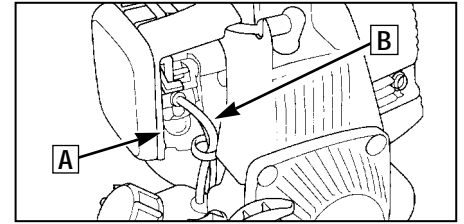

Figure 4
Fuel Primer Bulb (Section 4, Figure 4)
3. To start a cold engine, or after refueling an engine that has run out of fuel, press the priming bulb (A, Figure 4) repeatedly until fuel can be seen in the clear-plastic fuel-return tube (B). To restart a warm engine, it is not necessary to press the priming bulb.